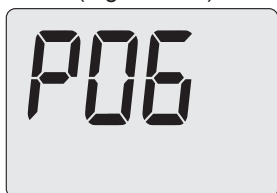

Figure 7.10
- Scroll through the various parameters using 13 or 14 until the LCD display shows the code **P06**, indicating entry into “parameter P06” (Figure 7.10).